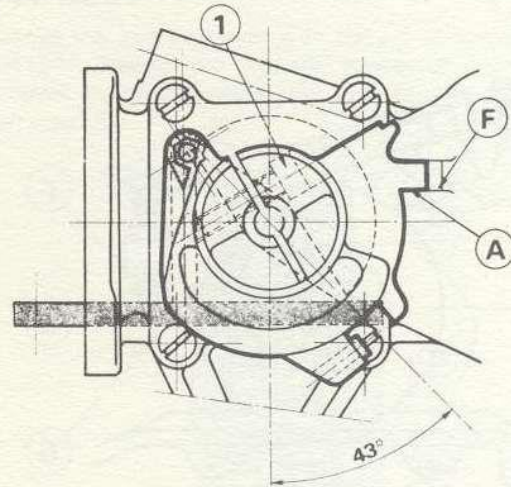

Fig. 2.08 Co-ordination of injection pump and throttle valve
Remove the return spring for the accelerator and slacken the Allen screw securing the throttle control drum. Align mark A (43°) on the drum with the bottom mark "F" (Fig.2.08). Tighten the Allen screw (1) taking care not to alter the adjustment. Leave a distance of 1.0 mm (0.04 in.) between the drum and the projection on the air distributor.